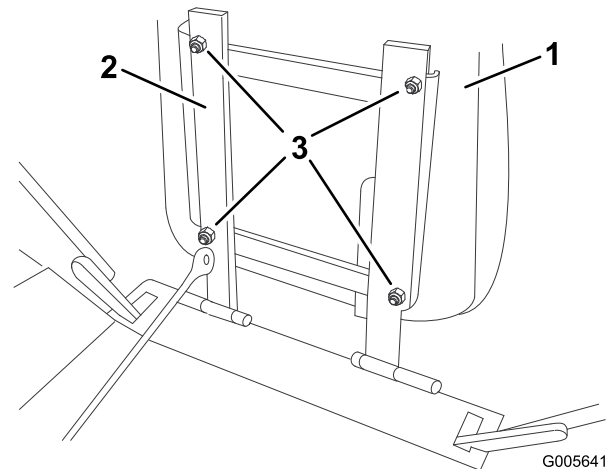

Figure 1
2. Remove the nuts holding the seat to the mounting frame (Figure 1). Retain the nuts.